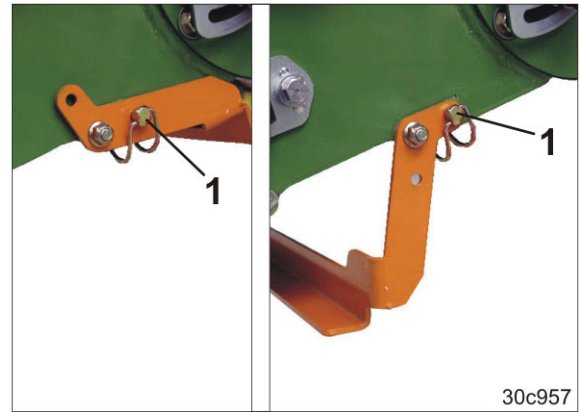

Fig. 256
3. Fold the mount down and secure [linch pin (Fig. 256/1)].